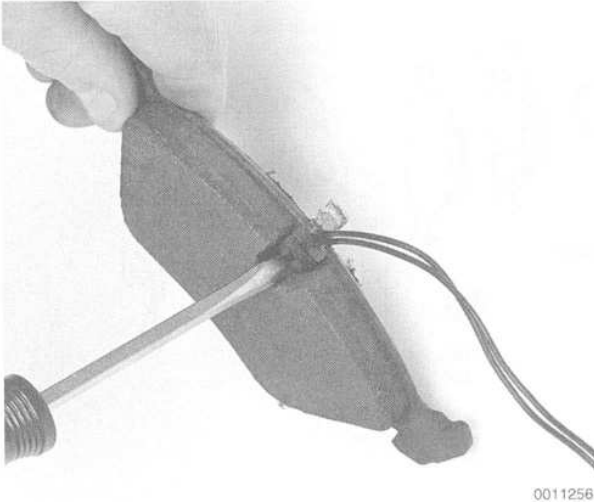

Fig. 5. Brake pad wear sensor being pried from brake pad. If reusing the sensor, use care when removing as they are easily damaged during removal.
6. Remove the brake pads from the caliper. Where applicable pry the pad wear sensor from the pad. See Fig. 5.